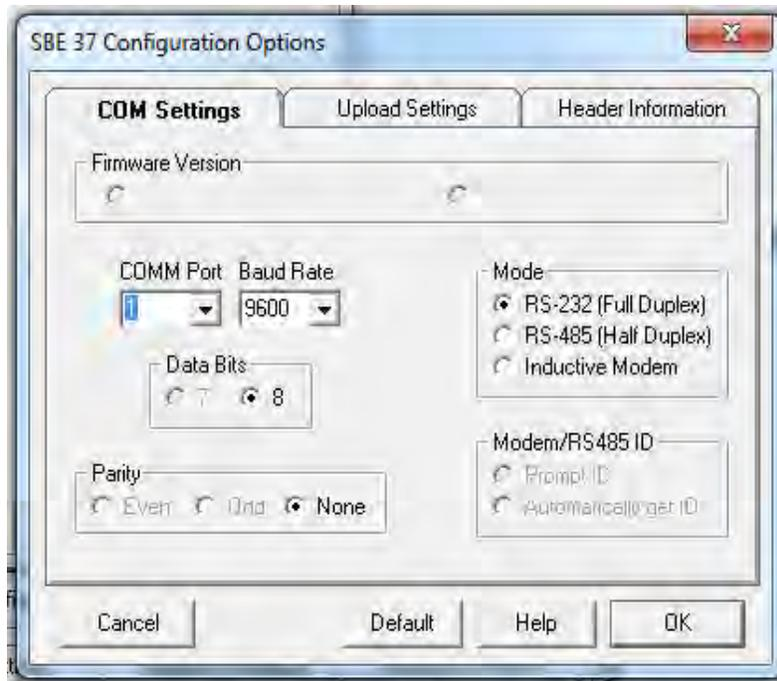

Figure 17. Image of COM Settings tab within the SBE 37 Configuration Options dialog box.
4. In the **COM Settings** tab, confirm (Figure 17):